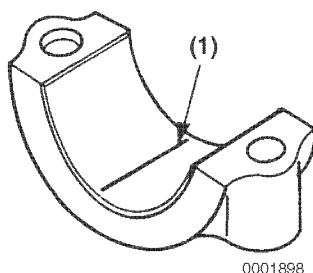

Figure 6-43
- (c) Place a piece of PLASTIGAGE® (**Figure 6-43, (1)**) along the full width of the bearing insert.